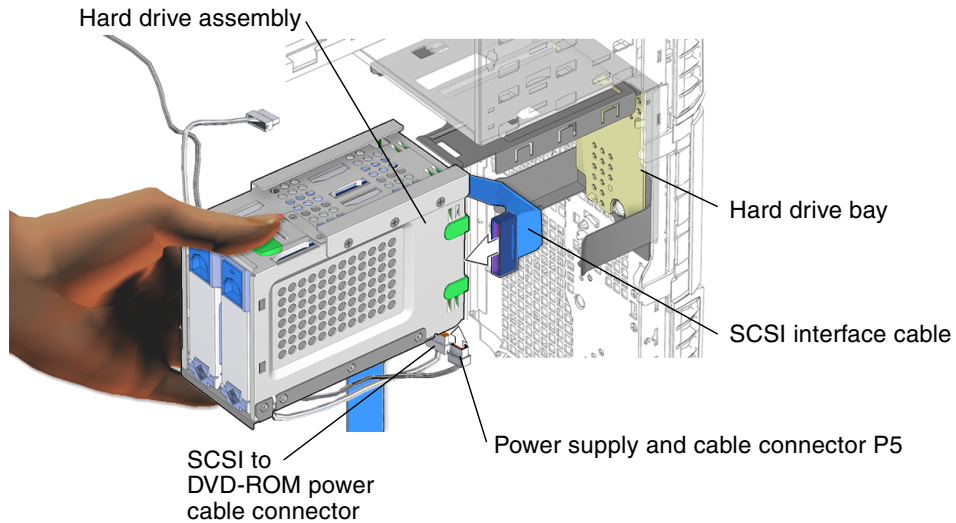

FIGURE 13-10 Installing and Verifying Installation of Hard Drive Assembly Cables
8. Connect power supply and cable connector P5 to the SCSI backplane (FIGURE 13-10).